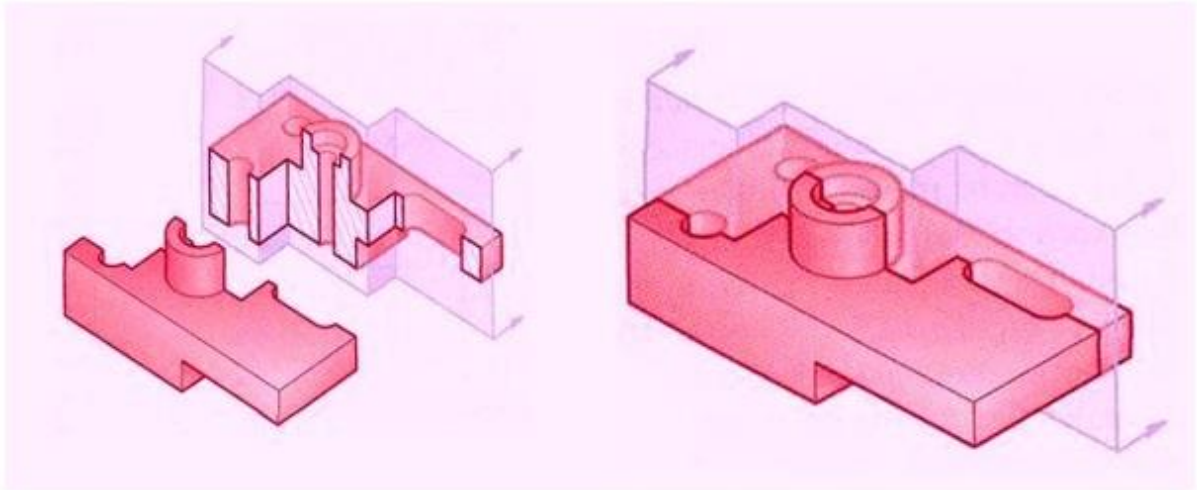

Figure 3. Illustrating an offset section
- (c) **Offset section**, where the sectional plane bent through the features that are not aligned. Example shown in figure 3.